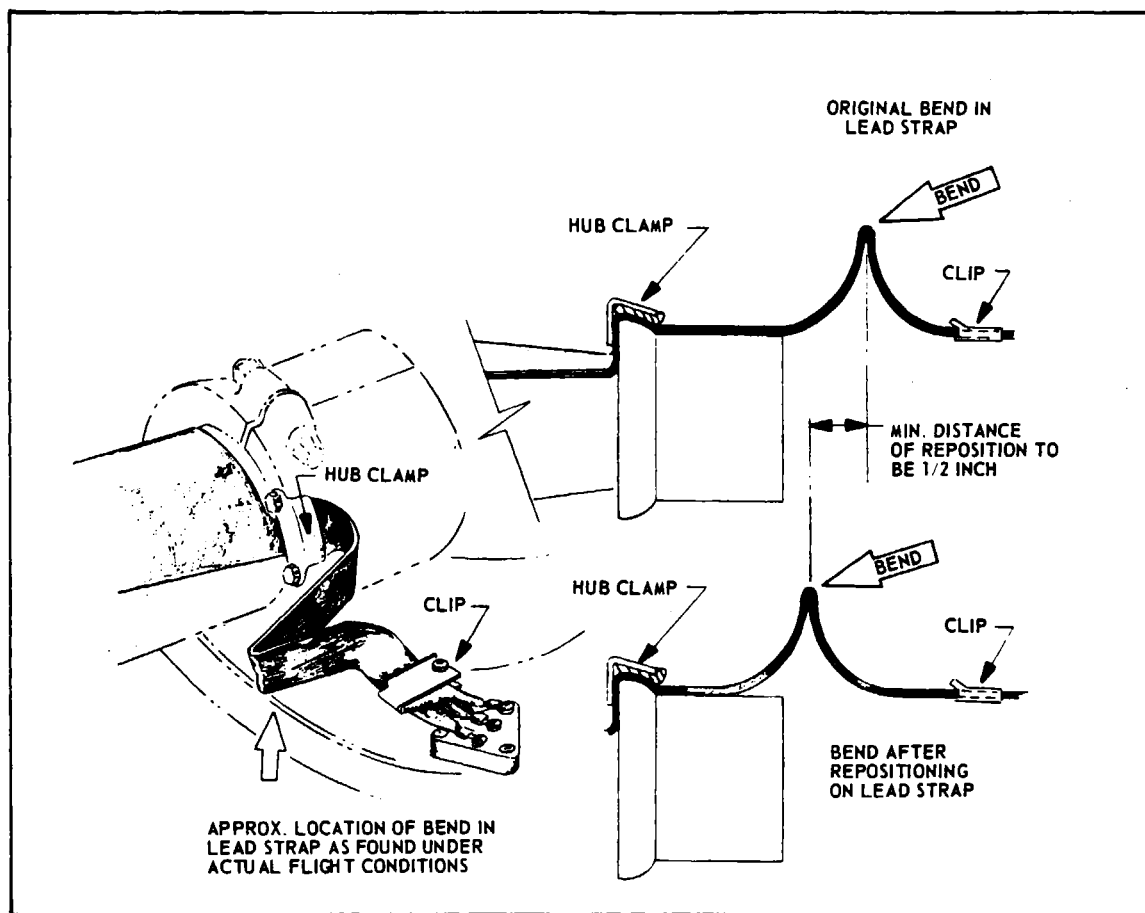

Figure 14-12. Relocating Bend in De-Icer Lead
d. Relocate bend of lead strap between hub clamp and clip as in Figure 14-12. This periodic relocation increases the life of the straps.